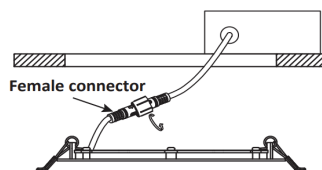

Figure 3
7. Connect the male output connector from the junction box with the female connector from the fixture and tighten the locking nut shown in figure 3.